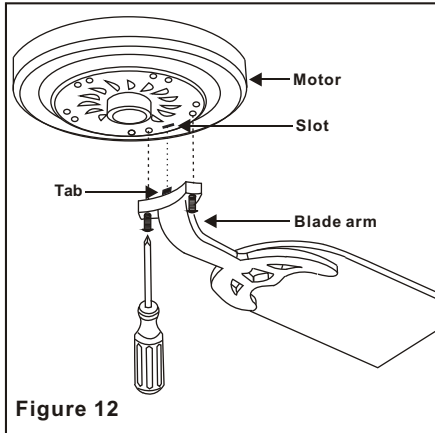

Figure 12
**Step 3** Fasten the blade arms to the motor by inserting the tab from the blade arms to the slot in the bottom motor housing, then tighten the two screws and washers already installed in the blade arms (Figure 12).